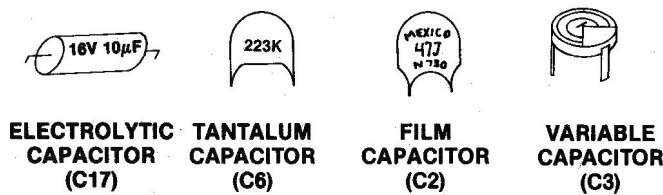

Fig. 1-7. Four types of capacitors found on Apple II motherboards.
In addition to chips, your motherboard has mounted on it a number of devices called capacitors. Fig. 1-7 shows what some of the capacitors look like so you can pick them out on your motherboard. Capacitors come in four varieties: (1) electrolytic, (2) tantalum, (3) film, and (4) variable. Your Apple boards have some of each type.